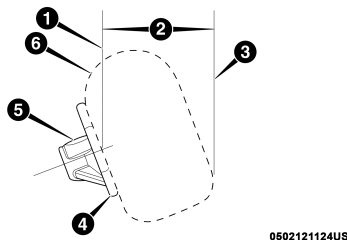
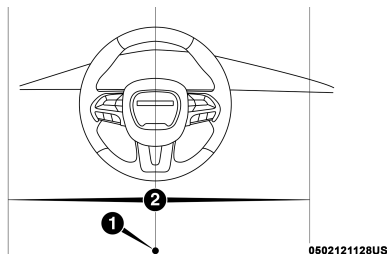

Figure 1 – Driver Air Bag Deployment Zone,
Figure 2 – Driver Air Bag Lateral Deployment Zone, depicts the following:
1. Driver Air Bag Deployment Zone (Figure 1) and Driver Air Bag Lateral Deployment Zone (Figure 2)